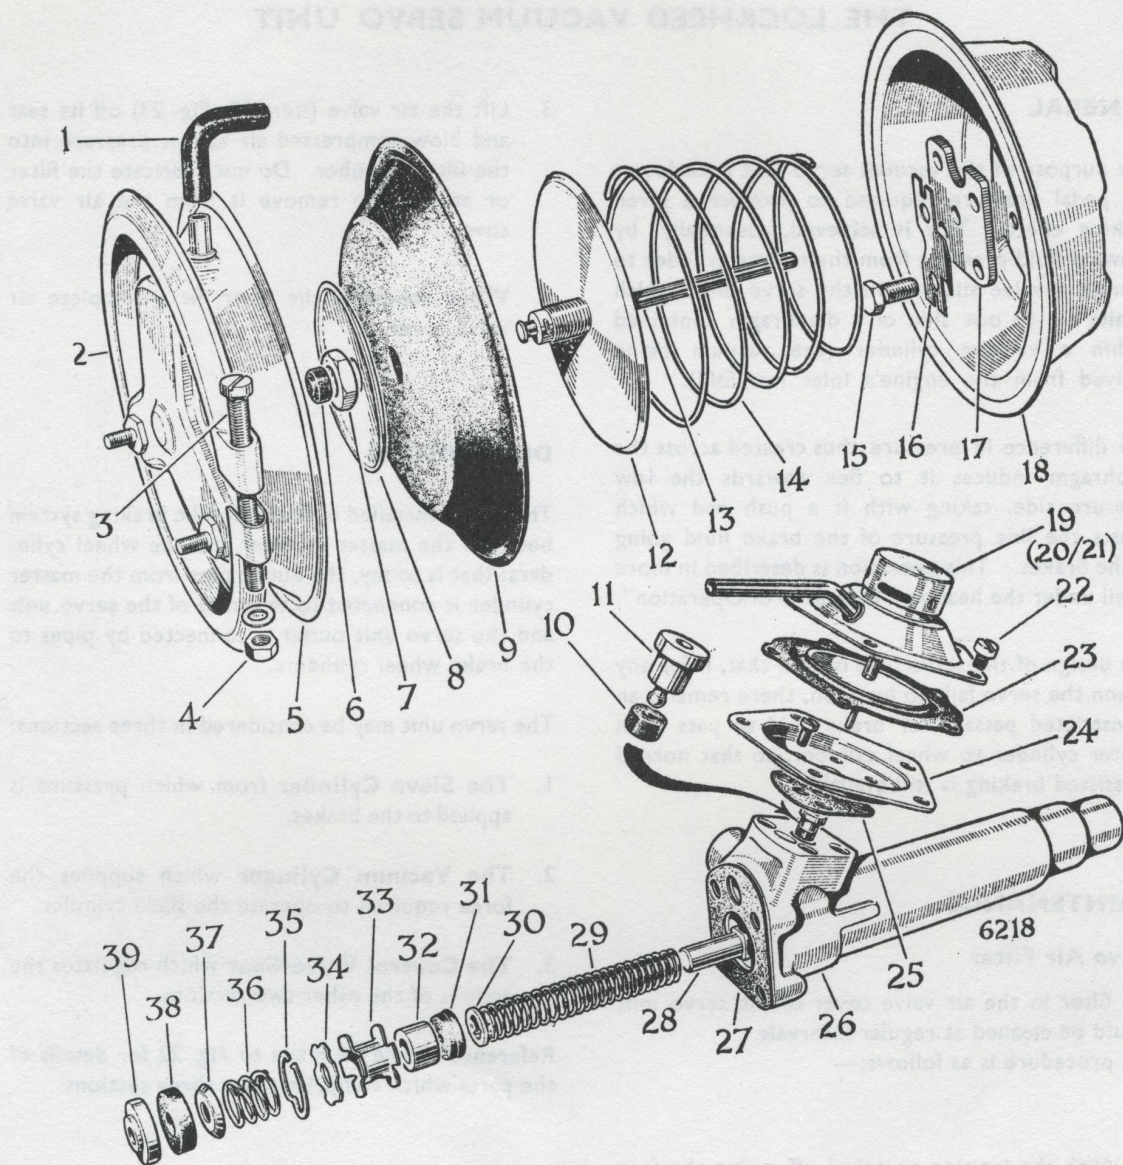
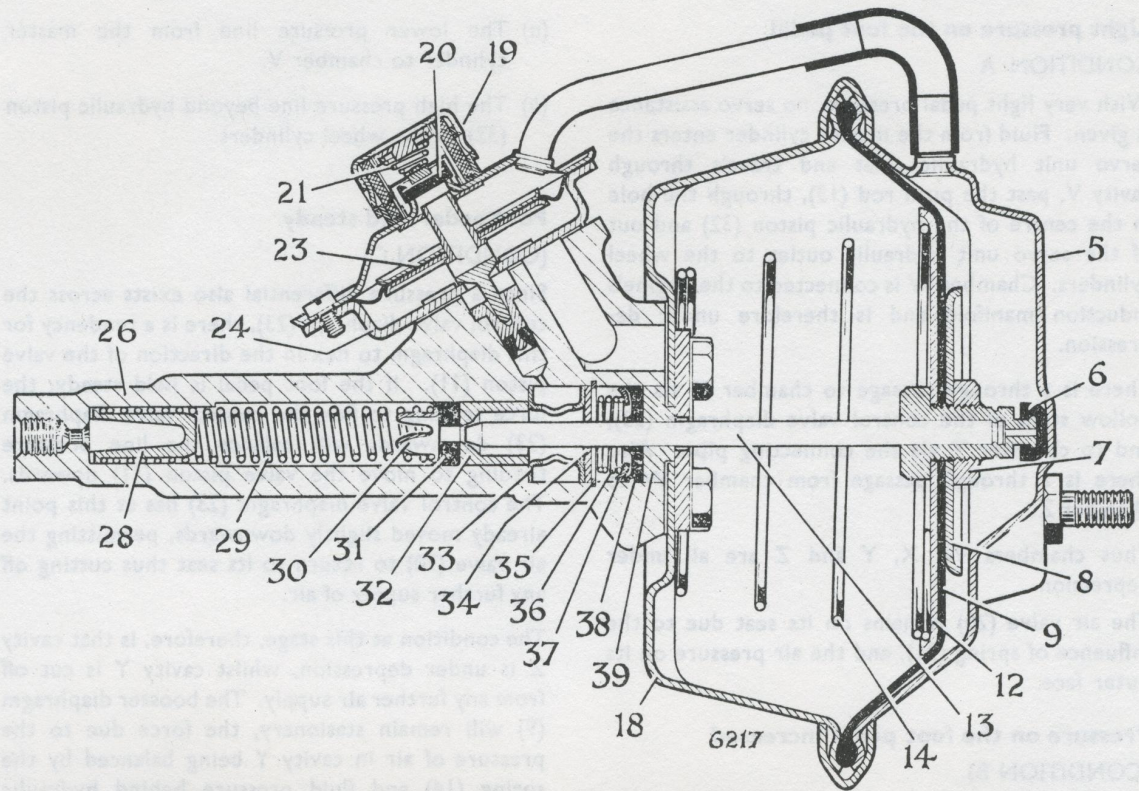
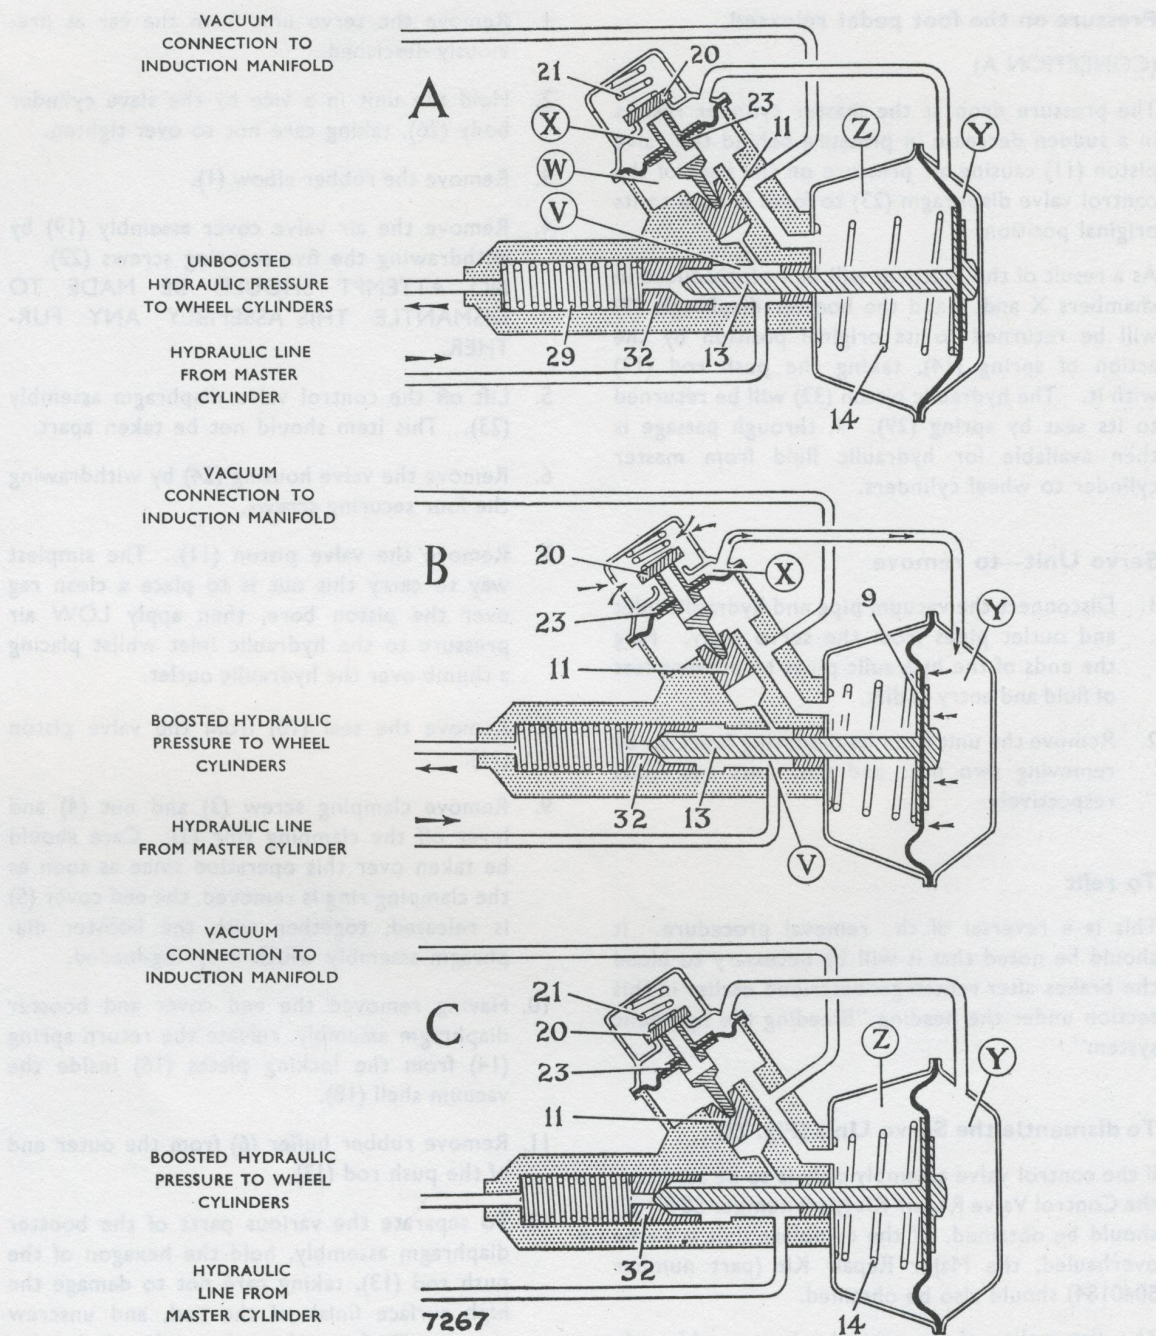

Fig. 22 Servo unit—exploded view
Fig. 23. Sectional view of the servo unit
Fig. 24. Diagram of the operating principles
2. Remove the air valve cover assembly (item 19, Fig. 22) by withdrawing the five securing screws.
3. Lift the air valve (item 20, Fig. 23) off its seat and blow compressed air at low pressure into the filter chamber. Do not lubricate the filter or attempt to remove it from the air valve cover.
Reference should be made to Fig. 22 for details of the parts which comprise these three sections.
The operation is shown diagrammatically in Fig. 24. The reference numbers used correspond with those used in the exploded view (Fig. 22) and sectional view (Fig. 23).
Annotation for Figs. 22 and 23
To dismantle the Servo Unit (Fig. 22)
1. Position the slave cylinder (26) in the vice with the hydraulic outlet facing downwards, taking care not to overtighten the clamp.
2. Fit the spring retainer (28) into one end of the spring (29) and the spring guide (30) into the other end. Insert the spring assembly into the slave cylinder bore, retainer end first.
3. Fit the main cup (31) by positioning the fitting sleeve, previously made up, at the mouth of the slave cylinder bore and passing the main cup through it (lip foremost). Take particular care not to turn back or buckle the lip.
4. Fit the hydraulic piston (32), flat face leading, into the bore and holding the piston against the spring pressure, fit the distance piece (33), washer (34) and circlip (35). Use the push rod (13), or a $\frac{5}{16}$ in. (7.9 mm.) diameter brass rod to depress the piston when fitting the circlip. Take care not to score the slave cylinder bore with the circlip and after fitting check that it is properly seated in its groove.
5. Insert spring (36) into the slave cylinder bore followed by the cup spreader (37), dished side facing inwards. Next, insert the secondary cup (38), hollow side facing inwards, ensuring that it locates properly on the cup spreader (see Fig. 23).
6. Fit the guide piece (39) in the end of the bore with the flat side facing inwards.
7. Place the gasket (27) in position.
8. Offer up the vacuum shell (18) to the slave cylinder (26), locating its base on the projecting portion of the guide piece (39).
9. Place the abutment plate (17) in position inside the vacuum shell (18) and secure, using two locking plates (16) and four bolts (15). The four bolts should be tightened to a torque reading of 150—170 lb. in. (175—195 kg. cm.).
- (a) Hold the hexagon of the push rod (13) in a vice with the push rod facing downwards.
- (b) Slide the large plate (12) over the threaded spigot with the lip side facing downwards.
- (c) Similarly, slide the rubber diaphragm (9) over the push rod with the hollow side facing the large plate (12).
- (d) Slide the small plate (8) over the spigot, lip side upwards, and secure by fitting the nut (7).